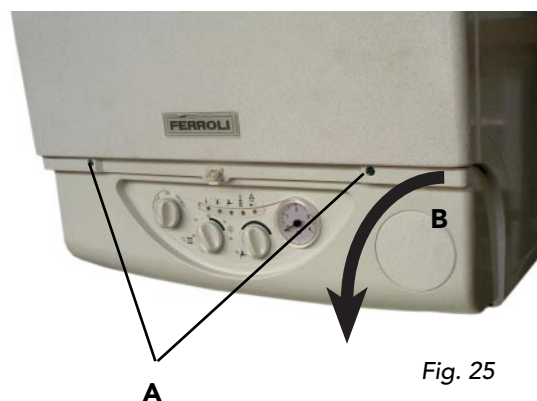

Fig. 25
### 7.03 To lower the control panel (fig. 25)
- Remove the two fixing screw (fig. 25) "A"